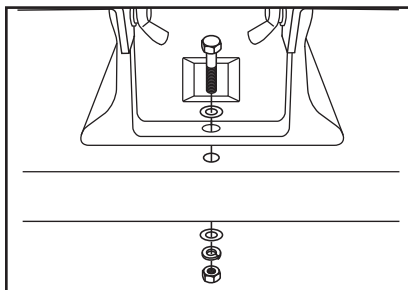

Figure 5. Mounting the buffer (front).
3. Secure the buffer to the benchtop or mounting board with 4mm hex bolts, washers, lock washers, and hex nuts as shown in **Figures 5 & 6**.